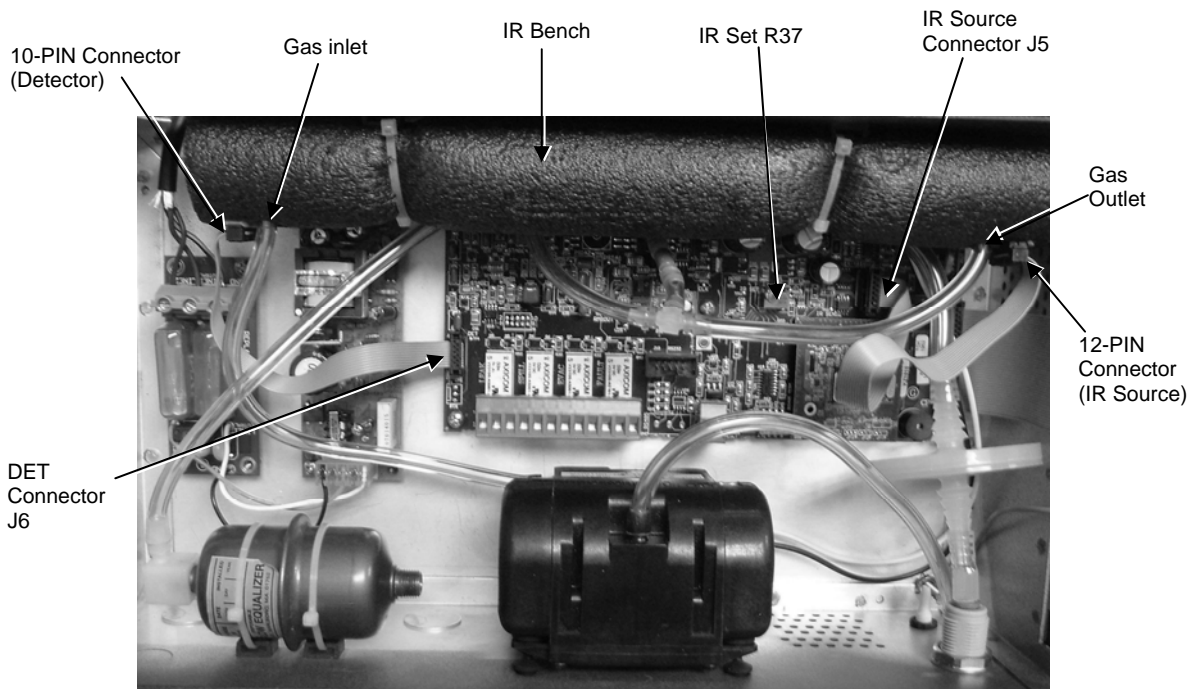
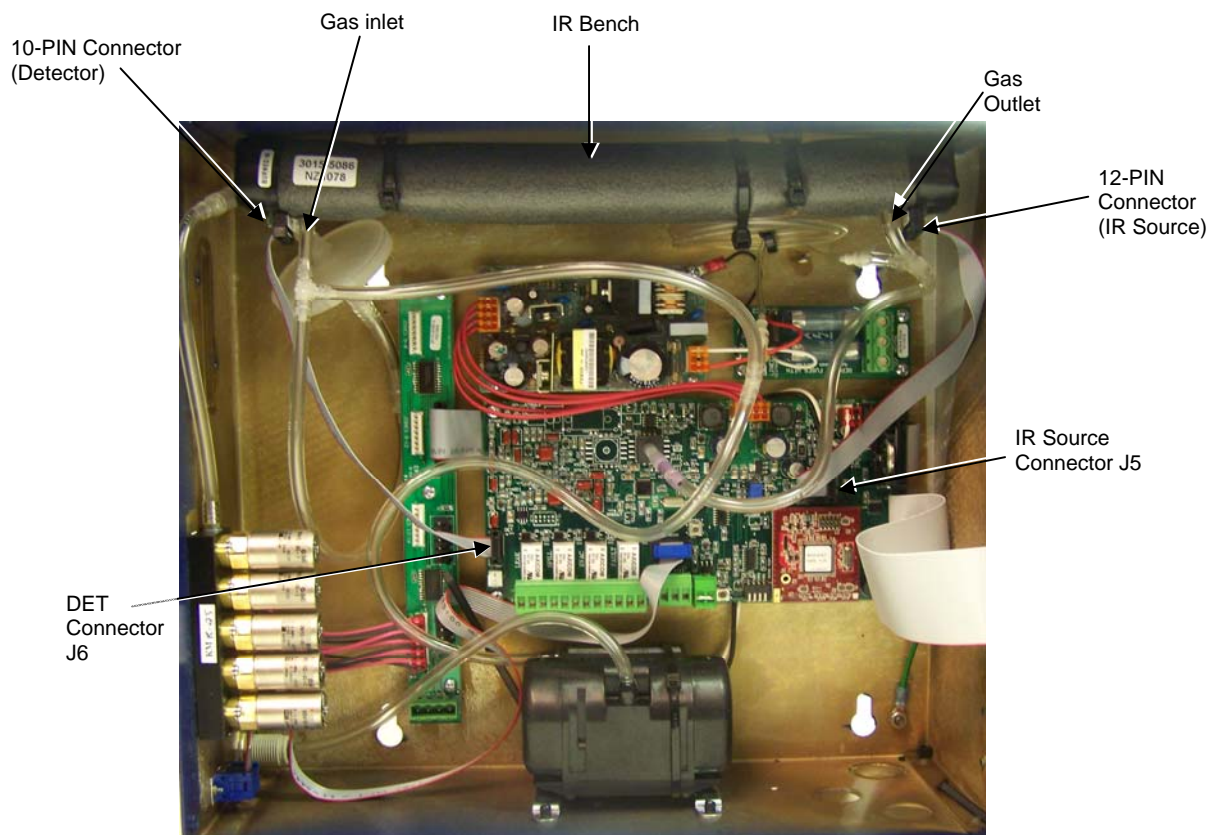

Figure 1: HGM-SZ Components
Figure 2: HGM-MZ Components
3. Take time to familiarize yourself with the internal components displayed on the following page. Figure 1 is a diagram of the HGM-SZ while Figure 2 is a diagram of the HGM-MZ.